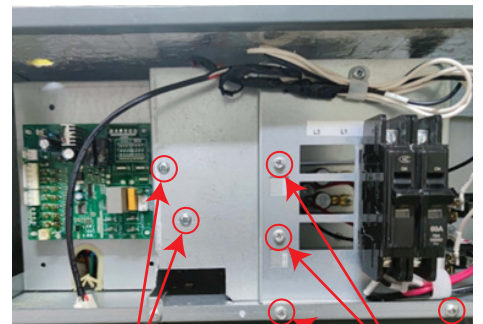

Fig. 10
- 7.) Install the electrical board bracket and screw it into place. Then, position, install, and fasten the electrical board on the bracket which also screws into place (See Fig. 10).